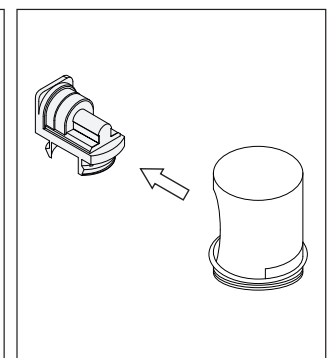

Figure 5
2. Remove the metering valve from the protective cap, if applicable. See Figure 5.